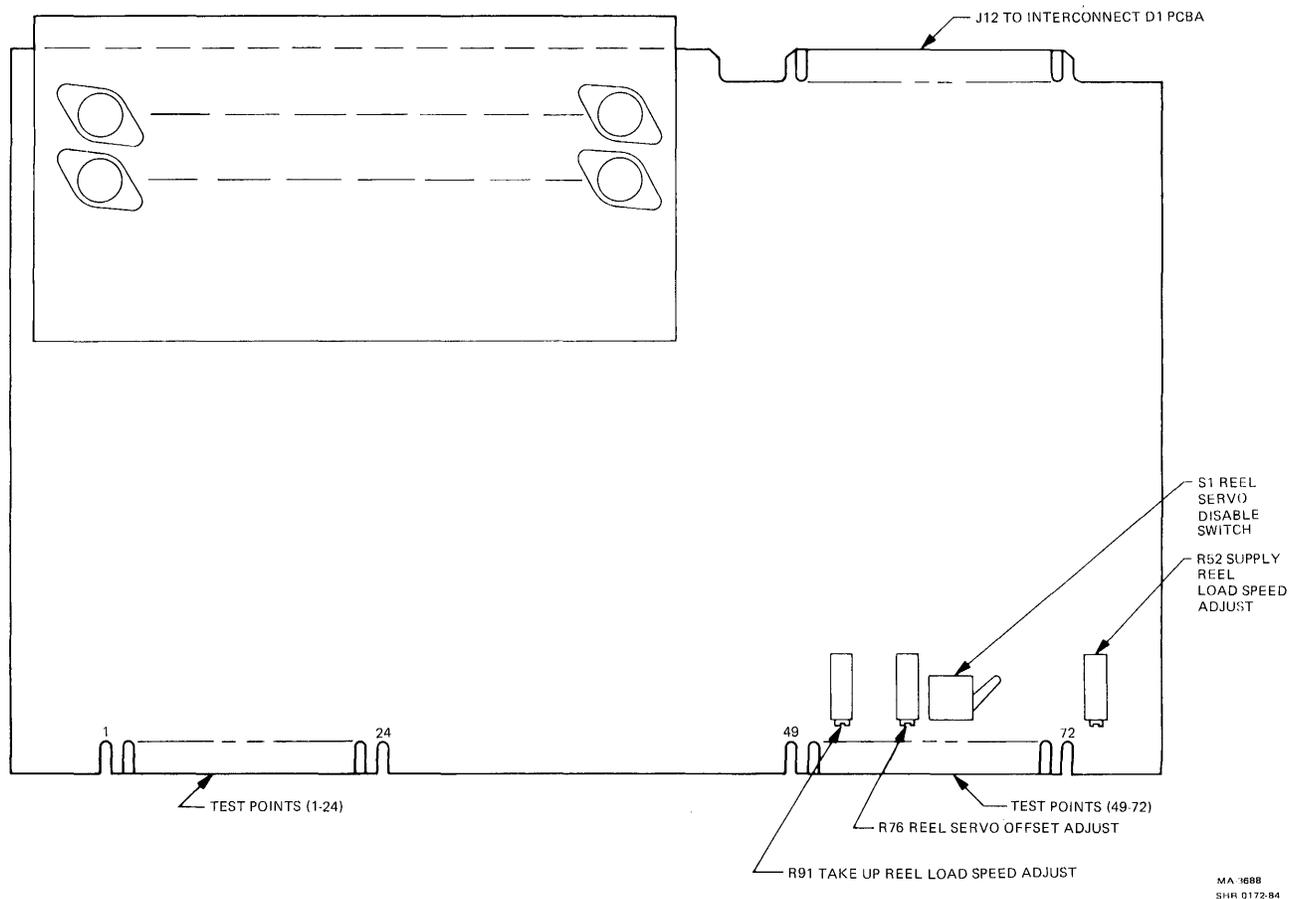

Figure 3-7 Reel Servo PCBA Adjustments and Test Points
3. Place disable servo switch S1 on the reel servo PCBA (Figure 3-7) toward the rear of the transport.
4. Remove red cap from take-up reel vacuum port (F).
2. Place servo disable switch S1 on the reel servo PCBA (Figure 3-7) toward the rear of the transport (servo disable position).
3. Remove the red cap from the thread block pressure port (M) and connect a differential air gauge with a range of 0 -- 1016 mm (0 -- 40 in) of water. Use the high input to the air gauge to measure pressure.